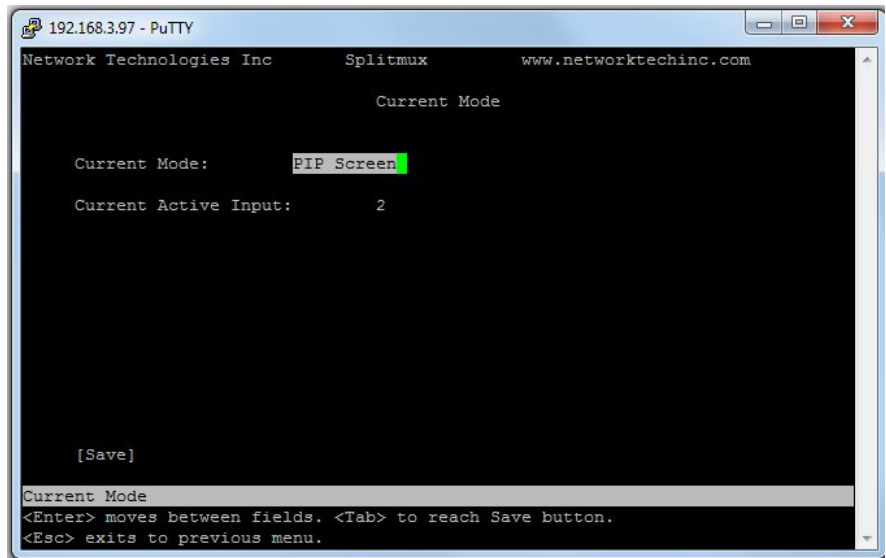

Figure 51- Text Menu-Current Mode Selection
- To move from menu list to action key (such as “Save” in Figure 51), press <Tab>.